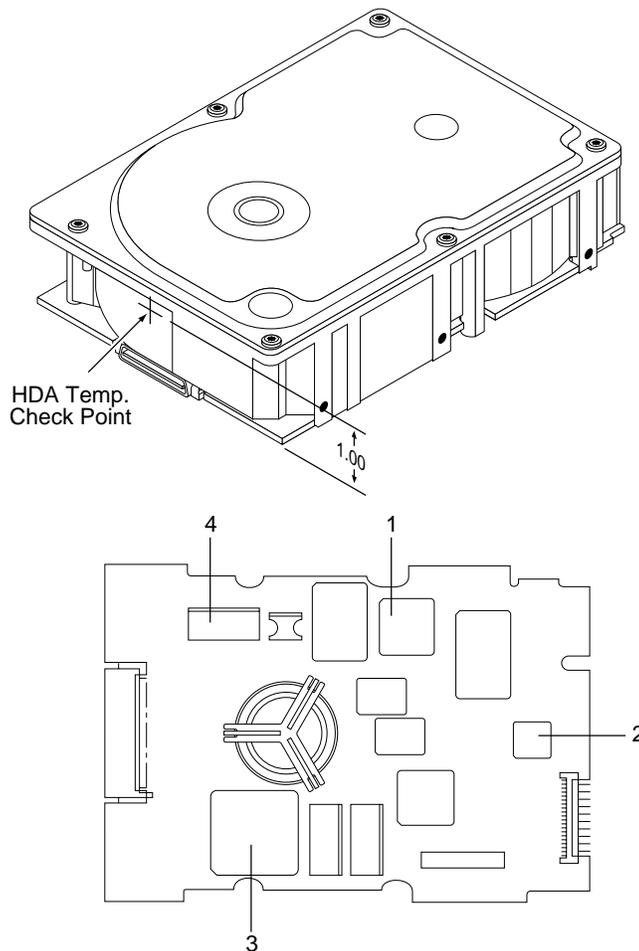

Figure 6. Locations of PCBA components listed in Table 2
- [2] Measure HDA temp at point labeled “HDA” on Figure 6.